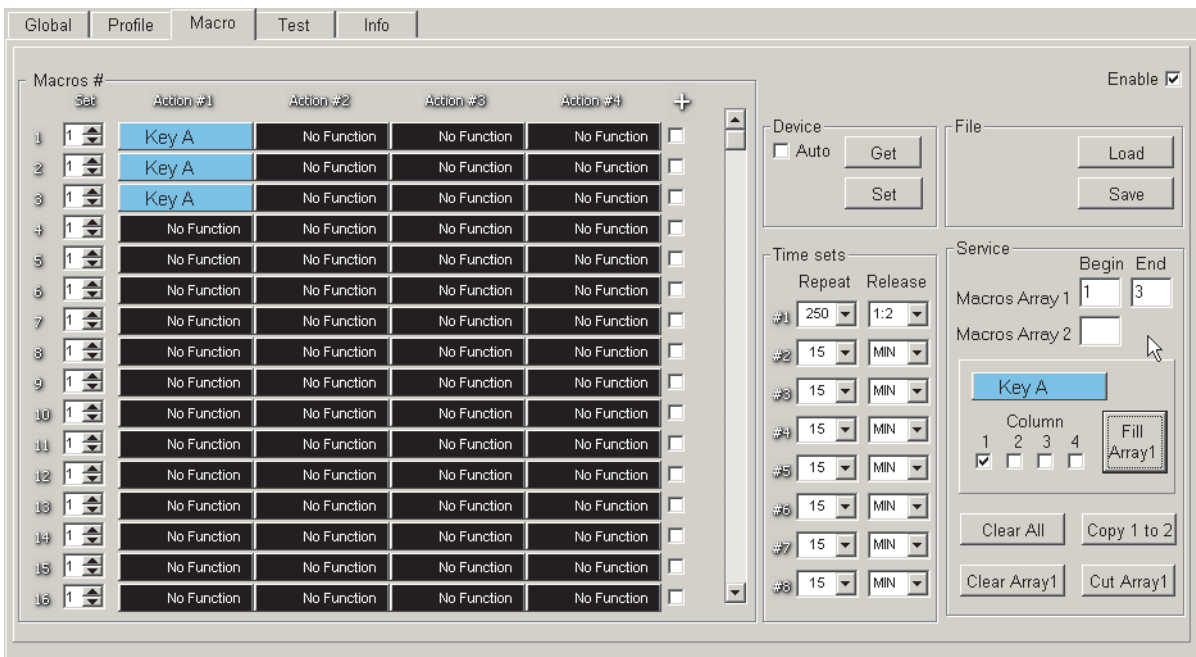
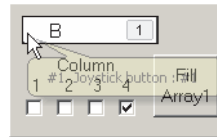

Fig. 7.4.
Fig. 7.5.
Some settings can be applied to several macros and points simultaneously. Use control items of **Service** group for it (Fig. 7.4).
**Clear Array1** button allows to reset specified macro range. Counters **Begin** and **End** in **Macros Array1** group (Fig. 7.4) specify range limits.
You can fill point array with the same functions. For example Action#1 column of macros 1...2 is filled with *A* keystroke on Fig. 7.4. Click logical button cell (Fig. 7.5) and assign desired function in **Quick logical layer wizard** dialog that will appear.